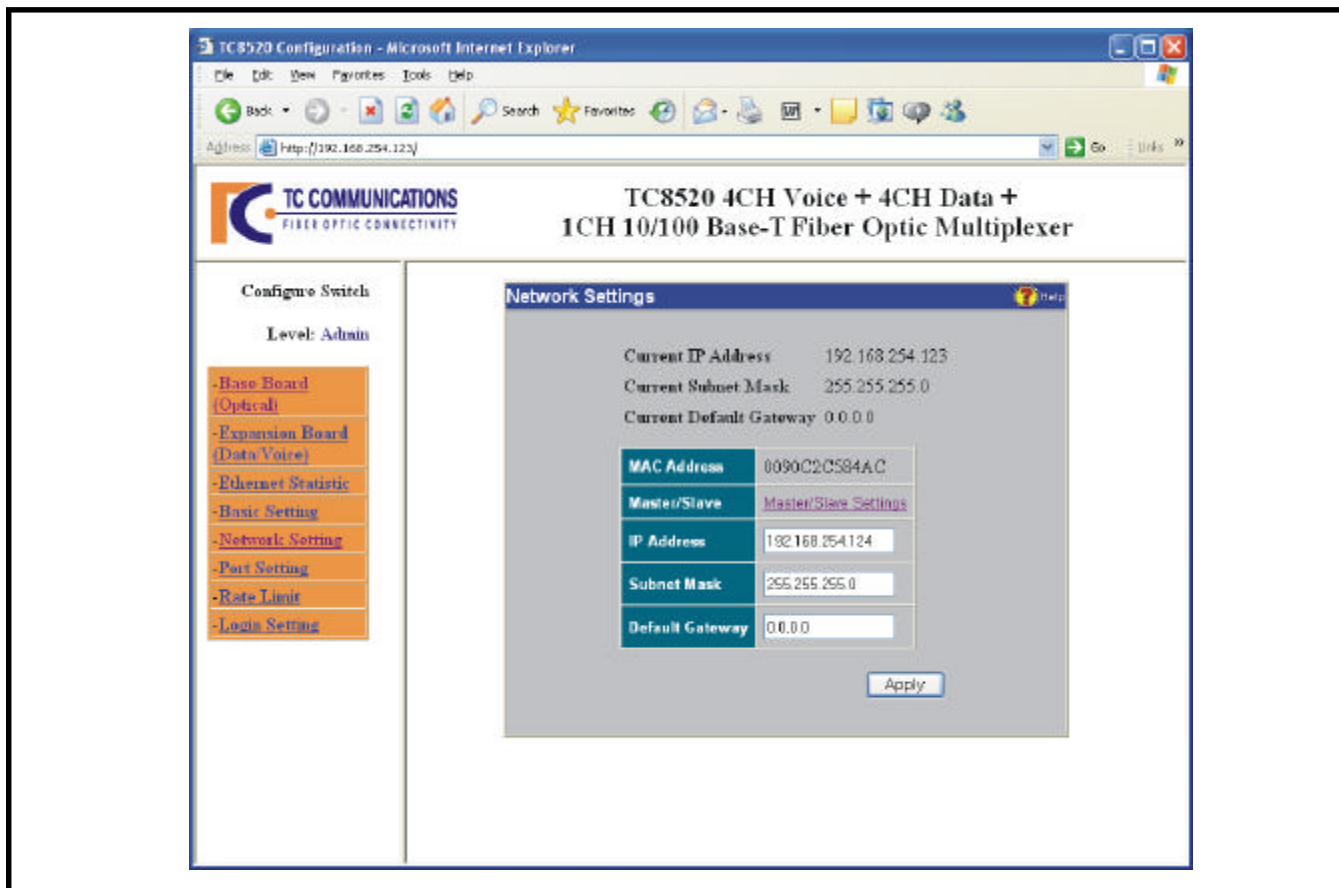
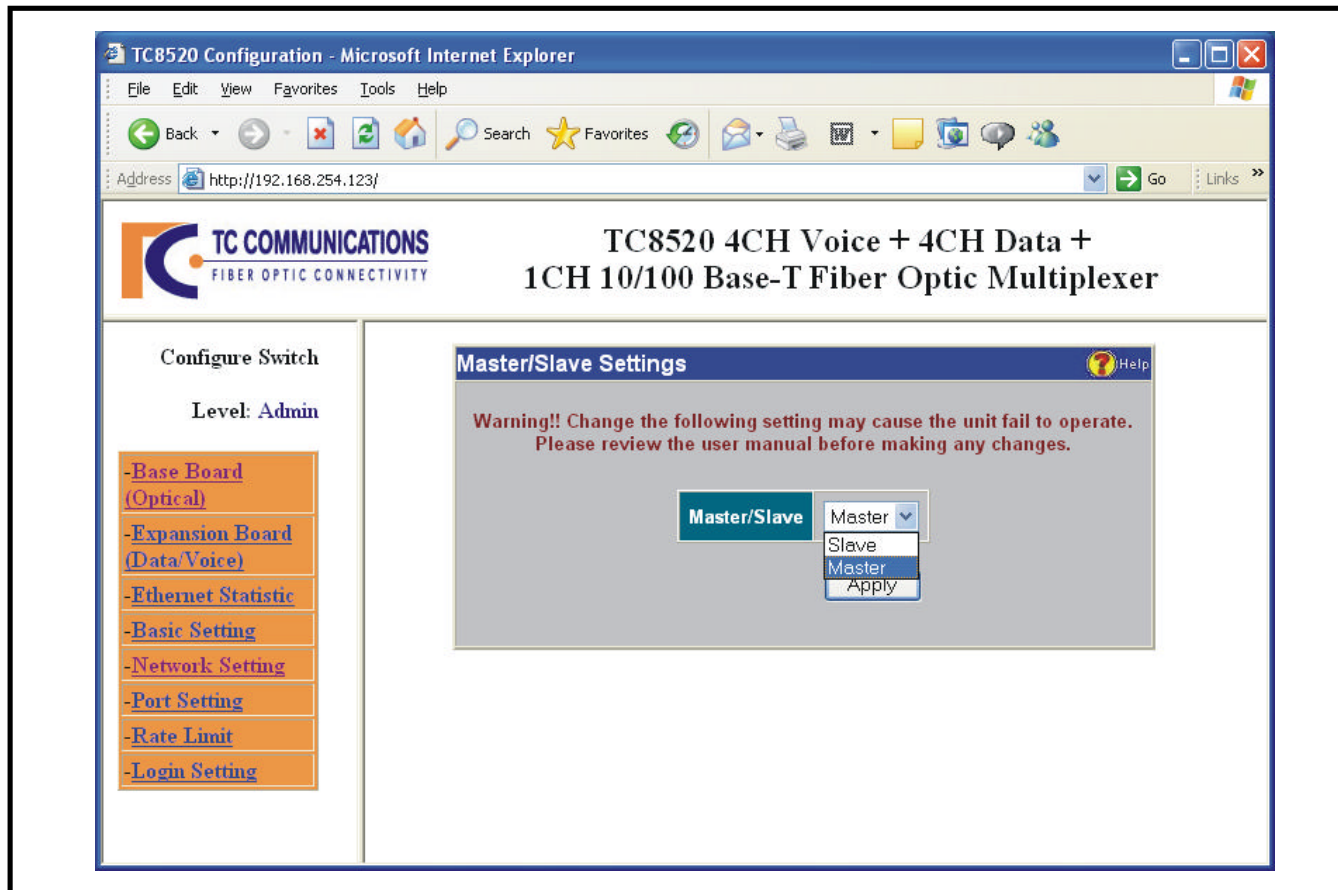

Figure 19. TC8520's IP Configuration
Figure 22. TC8520 Slave Configuration
To configure the network settings, click the "Network Setting" link on the left side of the page. On the IP settings window, enter the IP address, Subnet Mask and Default Gateway as shown on figure 19, below.
By factory default, all units will be set as Master units with default IPs of 192.168.254.123. The TC8520's work in pairs (one Master & one Slave unit). The user must configure one of the TC8520 units to be a Slave unit. Please refer to Figure 19, above and/or instructions on the "Read Me First" page included, to configure one of the units to a Slave unit.
1. One of the units must have a different IP address than that of the Master. To change it, enter the new IP address (for example, 192.168.254.124) in the "IP Address" field as in Figure 19 and click Apply to apply the new settings. The Master and Slave units **MUST** have different IP addresses.
2. From the Network Settings dialog box as in Figure 19, use the "Master/Slave Settings" link to change the unit to be a Slave unit. After you click the "Master/Slave Settings" link, you will see a dialog box as in Figure 22. Select the "Slave" setting from the pull down menu and click Apply.